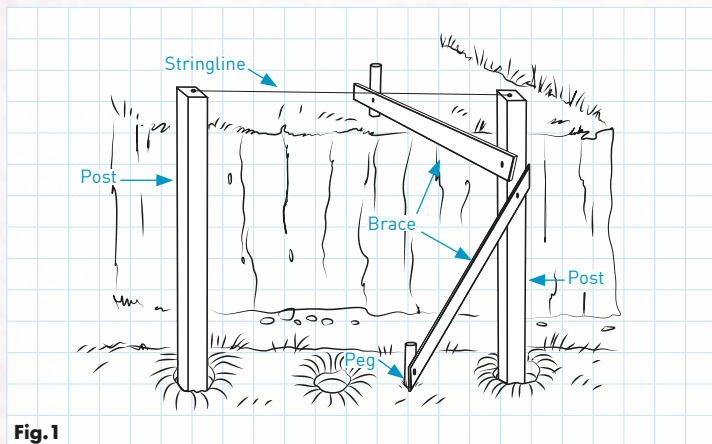

Fig.1
7. Brace posts. Check that you have exactly the same lean back on both posts and they are plumb (vertical) when viewed from the front (see Fig.1).